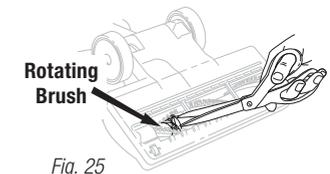

Fig. 25
- Inspect the opening underneath and the rotating brush. If a build-up of debris is present, remove it. Carefully cut anything wound around the rotating brush with scissors. Avoid damaging or cutting the bristles. (Fig. 25)